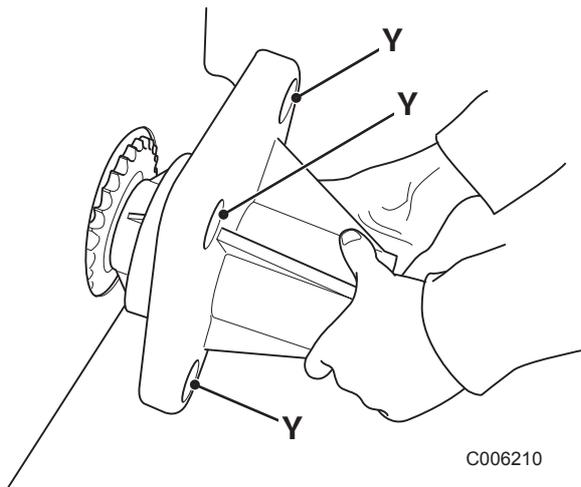

Fig 3.
- 6 Offer up the front drive axles to the chassis, → Fig 3. \(□ F-16\). Fit the bolts (4 off - one at each corner) at **3-Y** and torque tighten to 74 Nm (55 lbf ft).